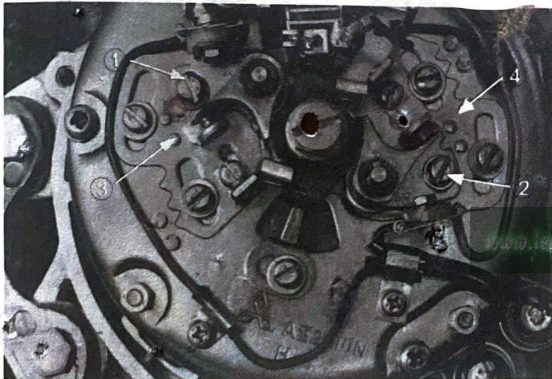

Fig. 6-2-2
- c) To gap the points, first rotate the engine until the ignition cam opens the points to their widest position. Slip a 0.4 mm feeler gauge into the gap. It must be a tight slip fit. If an adjustment is necessary, loosen the point lock screw (1 or 2) as shown in the Fig. 6-2-2, insert a screwdriver into the adjustment slots (3 or 4), and open or close the points until the feeler gauge indicates the correct gap. Retighten the lock screw and recheck the gap.